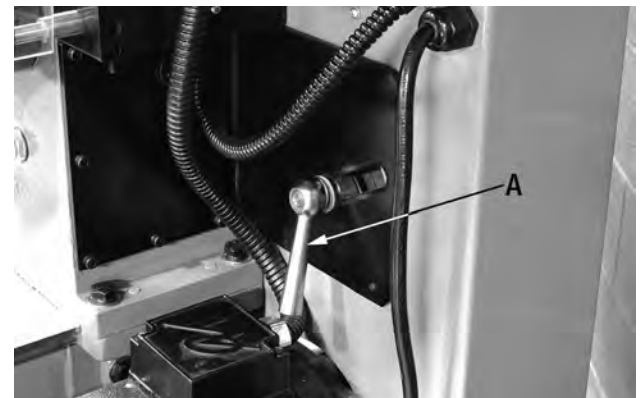

FIGURE 21
2. Loosen the belt tension lock lever (A) Fig.21 on the back of the Metal Lathe belt guard (B).
- Tighten the lock lever (A) Fig.21.